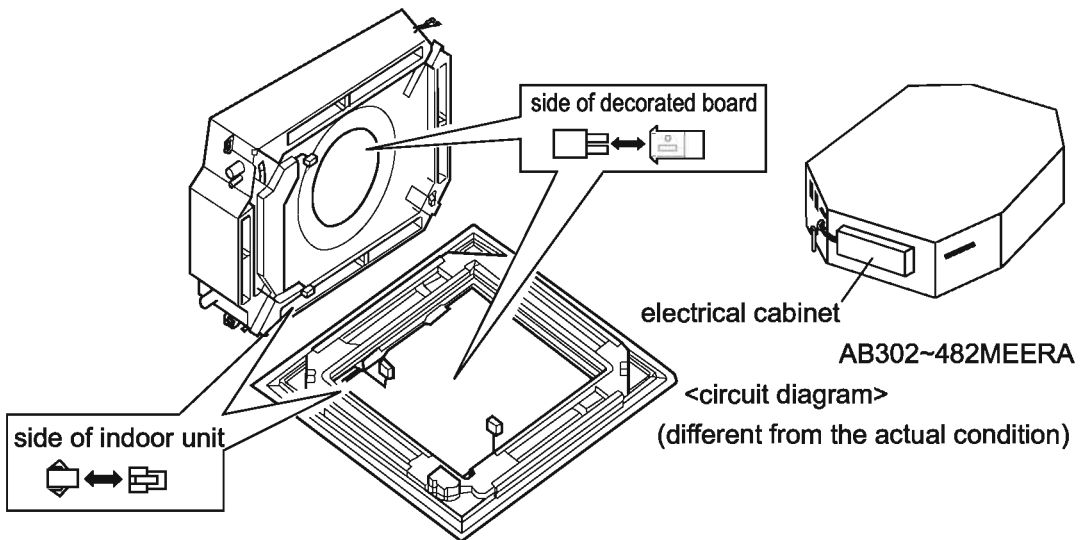

Fig.5
- Connect it to the connector of the wind deflector motor lead on the decorated board (Fig. 5);